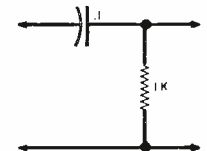

FIG. 4
- The time constant of the circuit shown in Fig. 4 is (a) 1 second (b) 100 seconds (c) 100 microseconds (d) 10 microseconds.